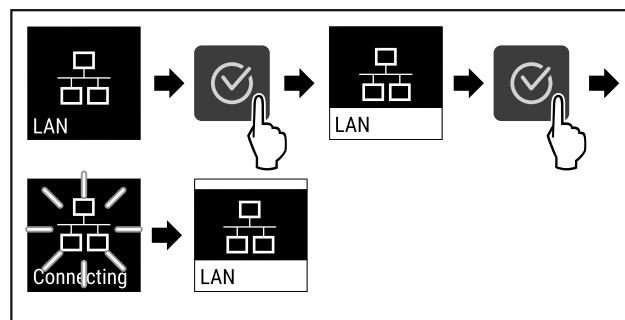

Fig. 90
- ▶ Complete the steps (see Fig. 90).